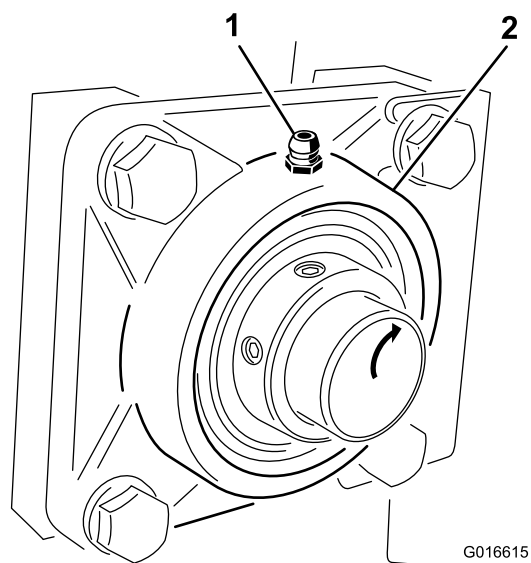

Figure 16
2. Pump several shots of grease into the fitting until it starts to ooze out of the bearing (Figure 16).